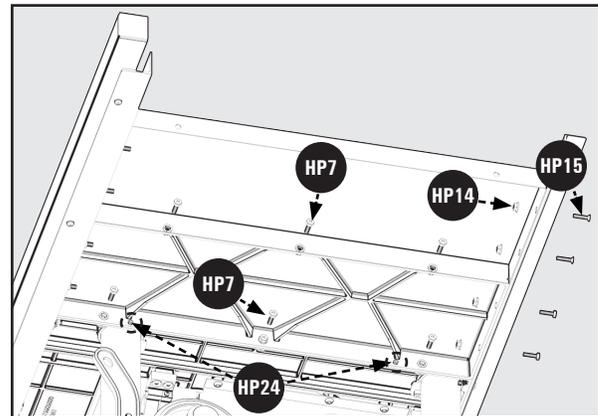

Figure 9
6. Turn the two wings fastened together over and fasten them to side of the saw table using three 5/16 18 x 7/8 inch hex head screws with Split Lock Washers **HP7**. See Figure 9.
NOTE: There are four 5/16-18 Set Screws **HP24** for the cast iron extension wing for the 36-5100 T2. Two Set Screws for each cast iron Extension Wing. The set screws are used to adjust the level. See Figure 9.
NOTE: There are four 5/16-18 Set Screws **HP24** for the cast iron extension wings for the 36-5100 T2. Two Set Screws for each cast iron Extension Wing. The set screws are used to adjust the level. See Figure 9.